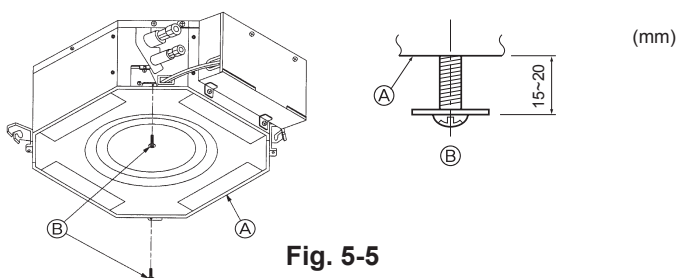

Fig. 5-5
5.3.1. Preparations (Fig. 5-5)